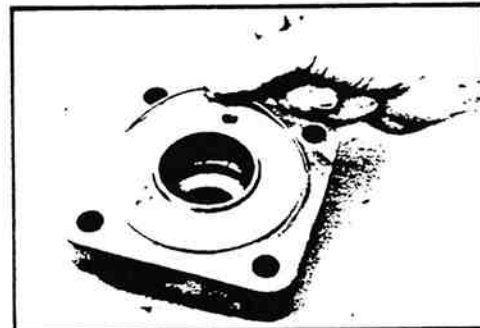

Figure 11-76. O-ring Installation.
25. Apply clean grease to the valve housing (19) O-ring groove. Install the new valve housing O-ring (24) into the valve housing O-ring groove (figure 11-76).